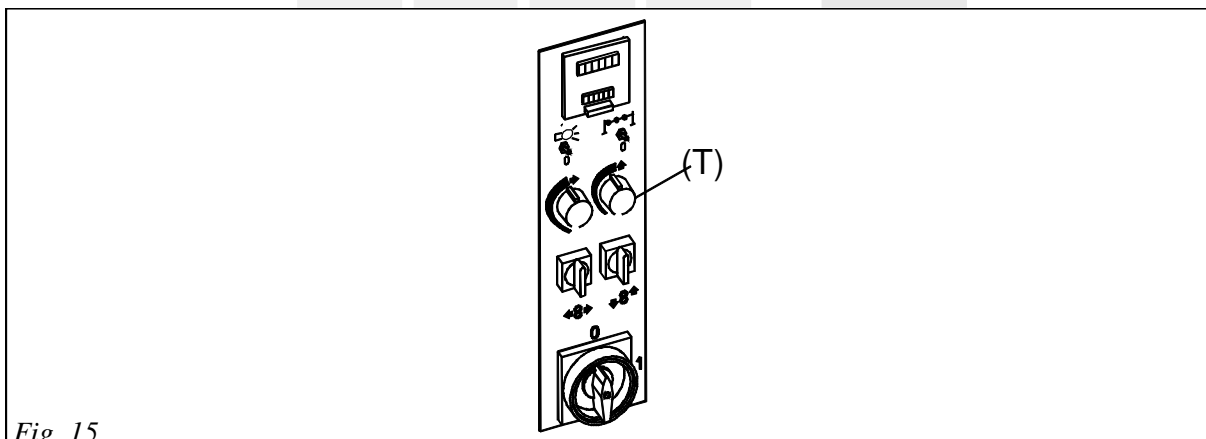

Fig. 15
f) the potentiometer (T) is utilized to cut compressible materials (foam rubber, expanded materials, etc.) (Fig. 15);